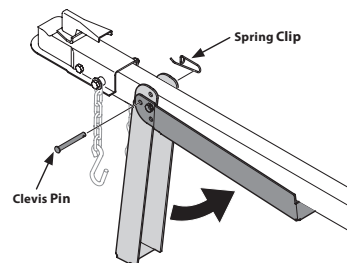

Figure 17
3. Support the tongue and pivot the jack stand up against the tongue. See Figure 17.
4. Secure with the spring clip and clevis pin previously removed in Step 2. See Figure 17.